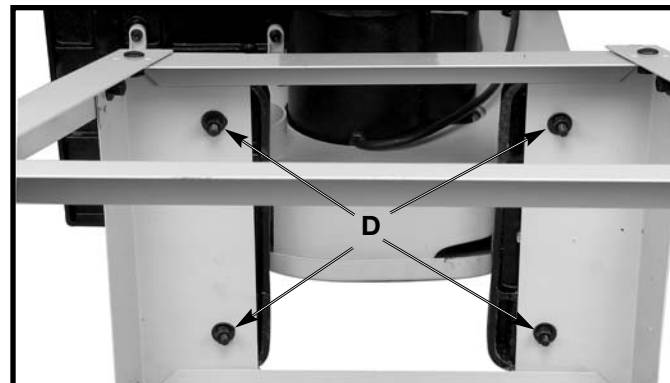

Fig. 8
4. Place a 3/8" flat washer on the screw (D) Fig. 8, followed by M8 lock washer, then thread a M8 hex nut on screw and tighten securely. Repeat this process for the three remaining holes.